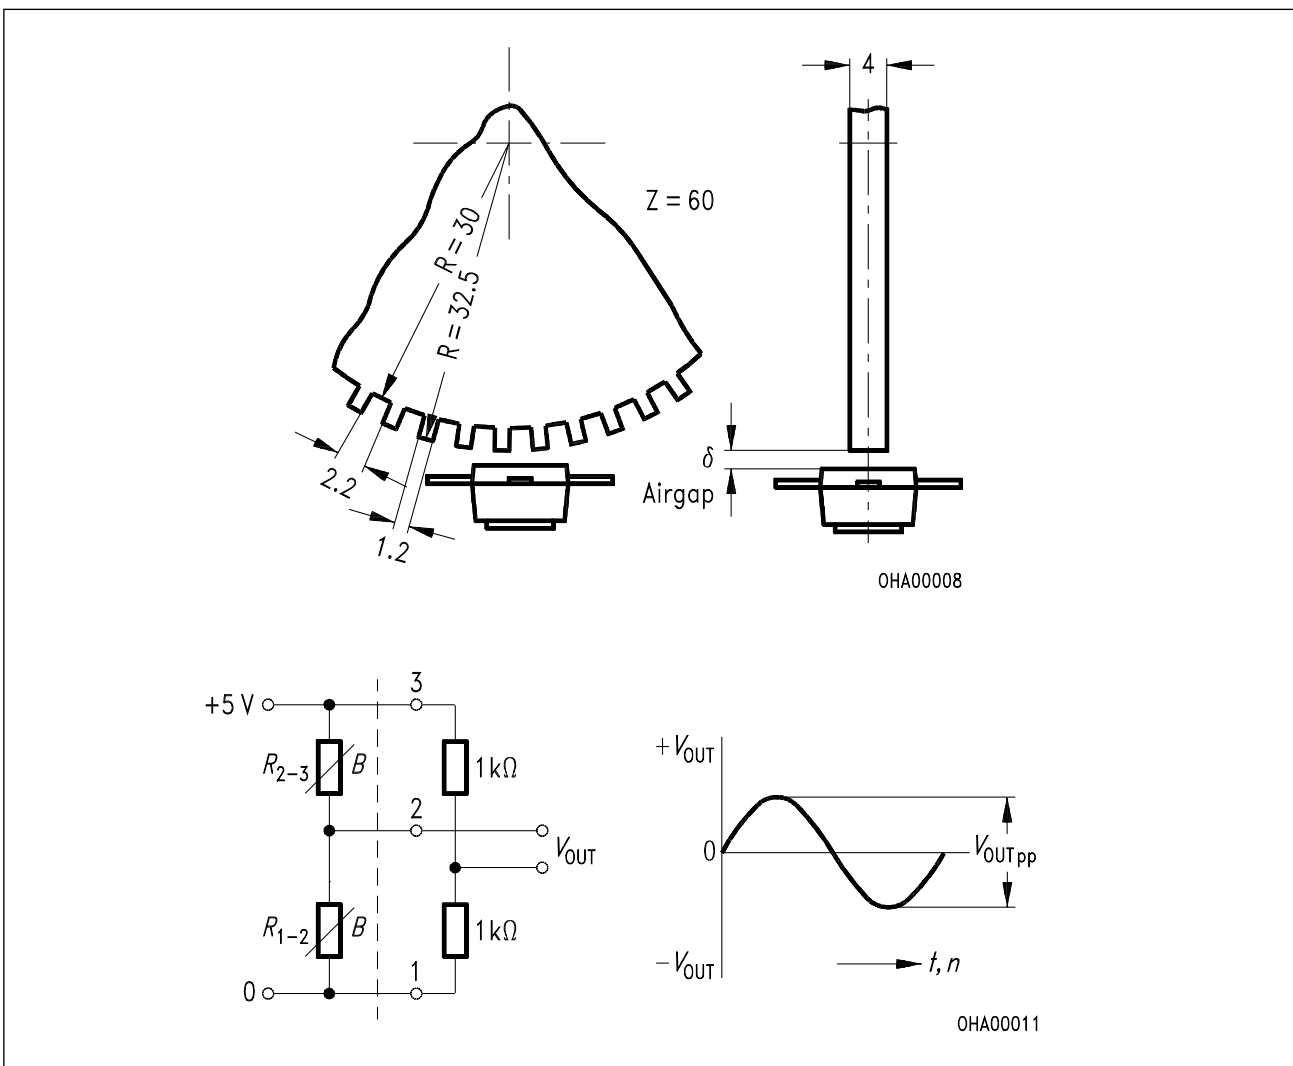

Fig. 1
5) Corresponding to measuring circuit in **Fig. 2** and arrangement as shown in **Fig. 1**
For digital revolution counting, the sensor should be actuated by a magnetically soft iron toothed wheel. The tooth spacing should correspond to about twice the magneto resistor intercenter spacing i.e. $2 \times 1.6 \text{ mm}$ (see Fig. 1).